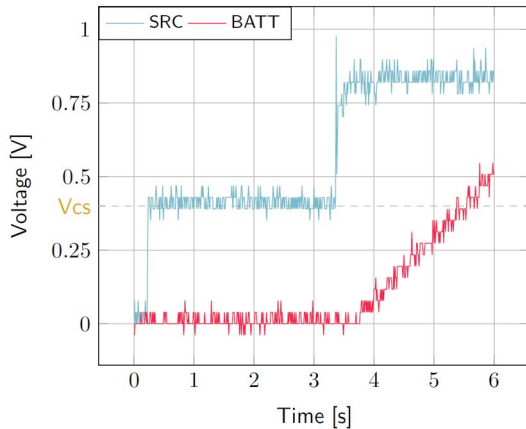

Figure 6: AEM00941 behavior during cold start
- *SRC*: Equal to the cold-start voltage during the cold-start phase. Regulated at the selected voltage when cold start is over. (See Figure 6). Be careful that the cold-start phase time will shorten with the input power. Limit it to ease the observation.
- *BATT*: Starts to charge when the cold-start phase is over (see Figure 6).